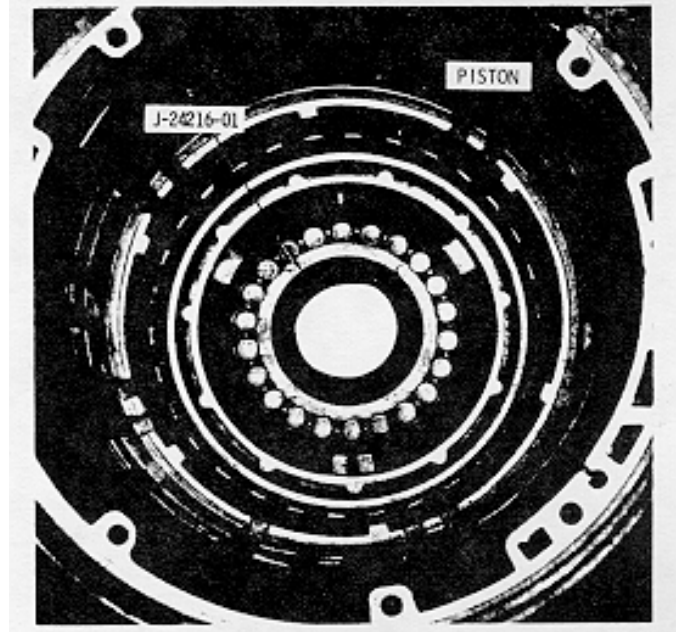

Fig. 7-1. Installing first clutch piston
(2) Place inner seal protector tool J-24216-01 over the hub in the transmission housing (fig. 7-1).
(3) Install the inner and outer lip type sealings into the grooves in the first
(4) Install the piston and sealrings into the transmission housing rear bore, engaging the piston tang into the slot in the housing (fig. 7-1). Be sure the lip of the sealring on the outside diameter of the piston is not distorted. Remove the protector tool.